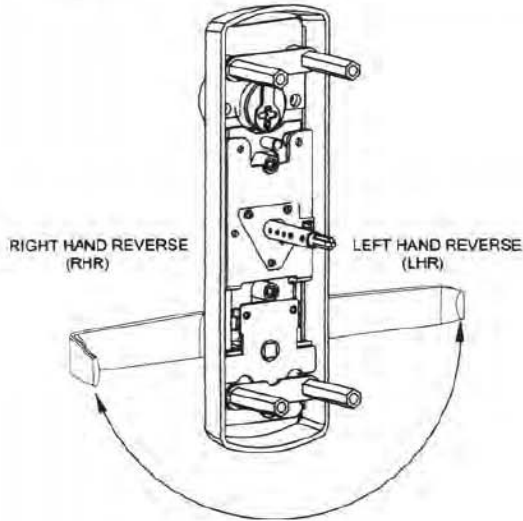

Fig. 1
1. Rotate lever handle to the right or left direction to match the desired door handing. (See Fig. 1.)